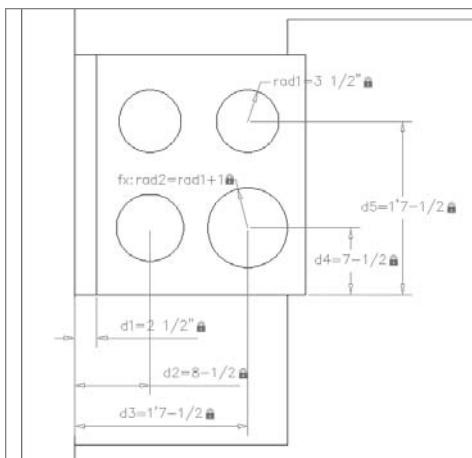

FIGURE 5.58 Fully constrained stove
8. Repeat steps 5 through 7 to apply a Radius constraint on the front-left burner. When prompted for the radius, enter `rad1+1` (rad1+25). Figure 5.58 shows the result.